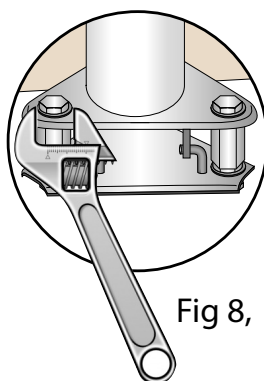

Fig 8,
9. Raise the flagstaff, insert and tighten the set screws and anti-vibration washers. (See Fig 8)